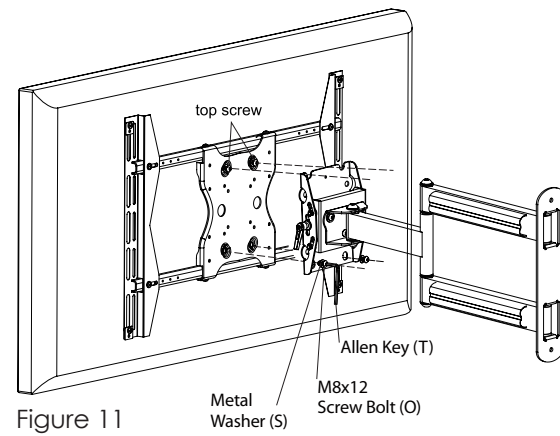

Figure 11
- Insert two M8x12mm (O) screws and two 8mm metal washers (S) into top two holes of Adapter Plate. Leave approximately 1/4" of exposed thread (Do NOT tighten fully).
- Once in position, attach the bottom two M8x12mm screws (O) and two 8mm metal washers (S) and secure the Adapter Plate to the mounting head using the Allen Key (S) to tighten down all M8 screws (Figure 11).